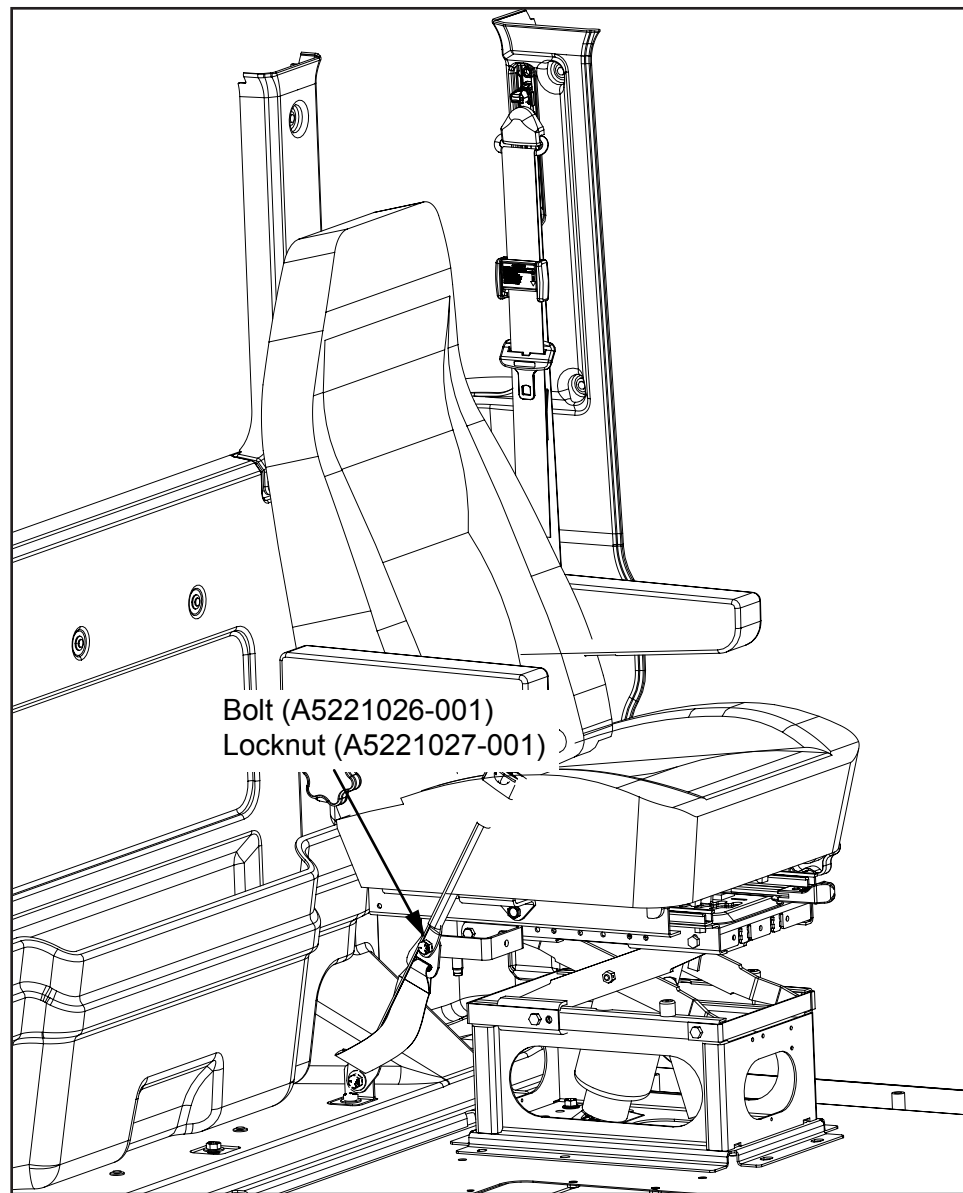

Figure 17
18. Install (1) bolt (A5221026-001) and (1) locknut (A5221027-001) and tighten to 41 Lbs-Ft of torque (see Figure 17).